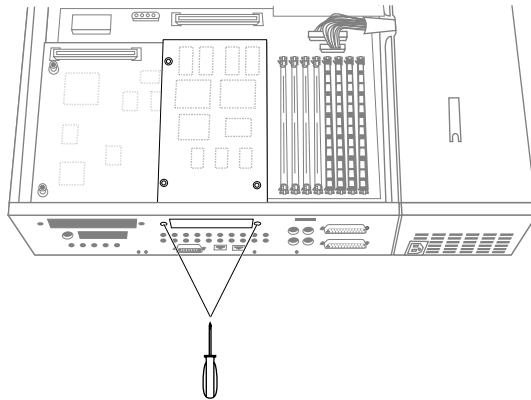
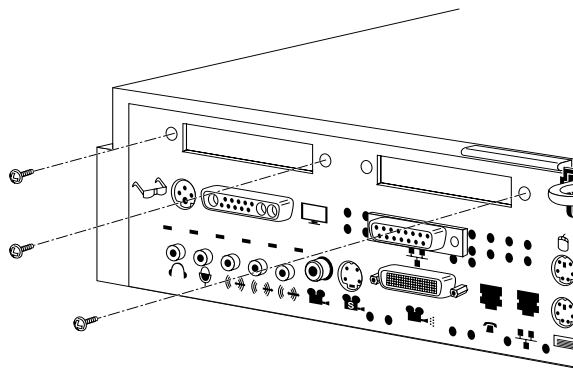

Figure 4-7 Attaching the External Screws For a Single-Width Board
Figure 4-8 Attaching the External Screws For a Double-Width Board
9. Insert and tighten the screws that come with the GIO board through the rear of the workstation. Figure 4-7 shows the screw locations for a single-width board; Figure 4-8 shows the screw locations for a double-width board.